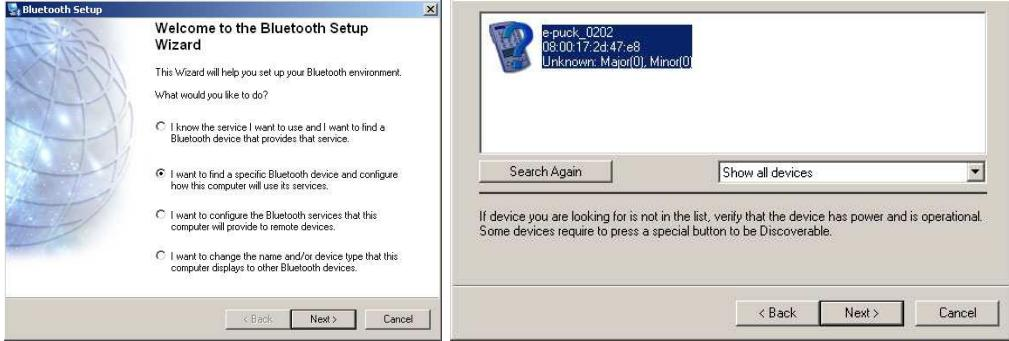

Figure 9: Left: Initial choice on the Bluetooth Setup Wizard. Right: Select your e-puck robot in the bluetooth devices found by your computer.
2. On your computer, please start the **Bluetooth Setup Wizard**, as shown in figure 9 left.
3. As illustrated in figure 9 right, please choose the **e-puck\_XXXX** device where XXXX is the number of your e-puck. The number is written on the metallic plate under the speaker extension. On figure 9 XXXX means *0202*.